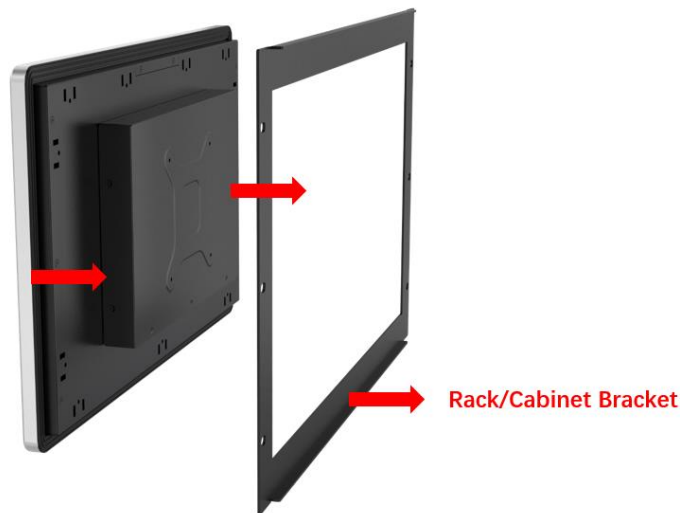

Figure 3-19: Slide into the Rack/Cabinet Bracket
- Step 1:** Slide the rear of the DM2 Series LCD monitor through the rack/cabinet bracket until the aluminum frame is flush with the front of the bracket (**Figure 3-19**).